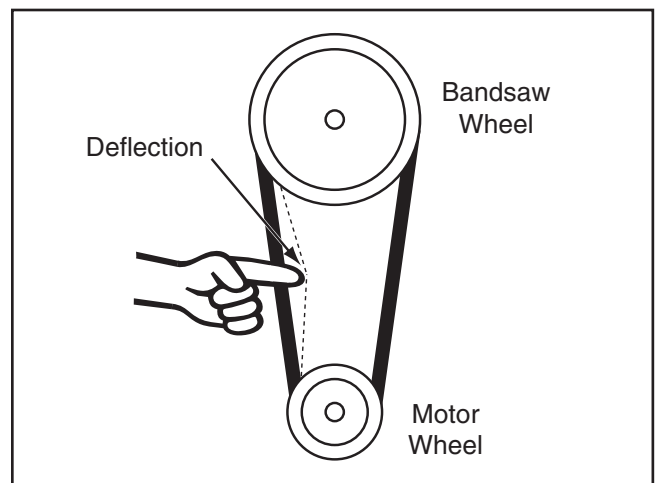

Figure 41. V-belt deflection.
6. Tension the V-belt(s) to deflect approximately $\frac{1}{2}$ " (see **Figure 41**).